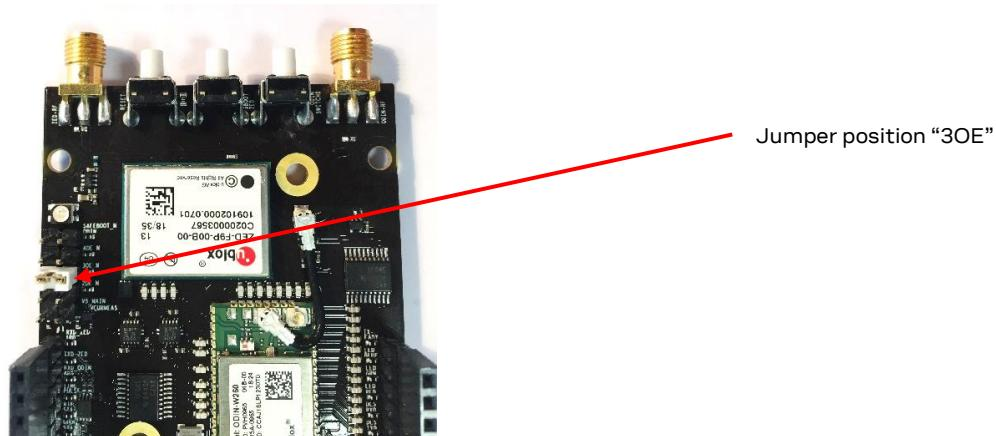

Figure 19: C099-F9P rover jumper position
The ODIN-W2 module communicates with the ZED-F9P via a serial port which is shared with the FTDI USB/COM port via multiplexors. Once Bluetooth communication is established with the ODIN-W2, a jumper connection should be made at position "3OE" to connect the serial ports of the ZED-F9P and ODIN-W2 together. See Figure 19 below.
- ☛ Place a jumper at position “OE3” as shown in Figure 19, this will connect the ODIN-W2 and ZED-F9P UARTs to provide transmission of RTCM messages to the rover.